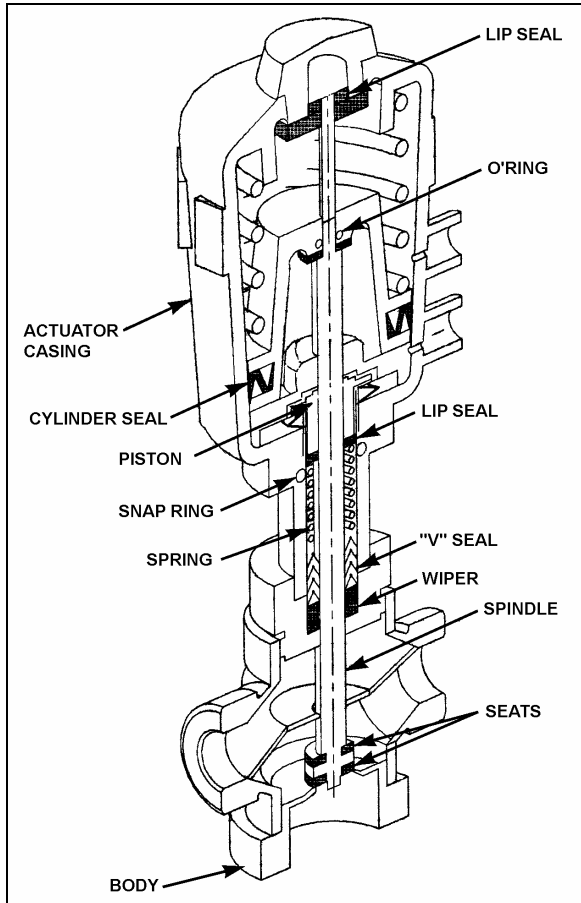

FIGURE 47: PNEUMATIC WATER VALVE 22330
2. The water valve need not be removed from the line. Unscrew nipple, the actuator casing, tube, spindle and closure member can be removed (Fig. 47).